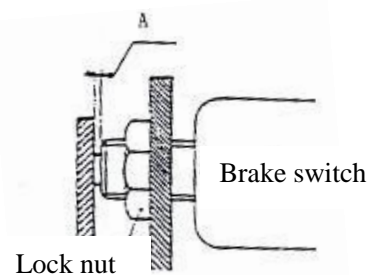

Figure 2-6 Brake light switch
- (5) Adjust the brake switch as shown in Figure 2-6